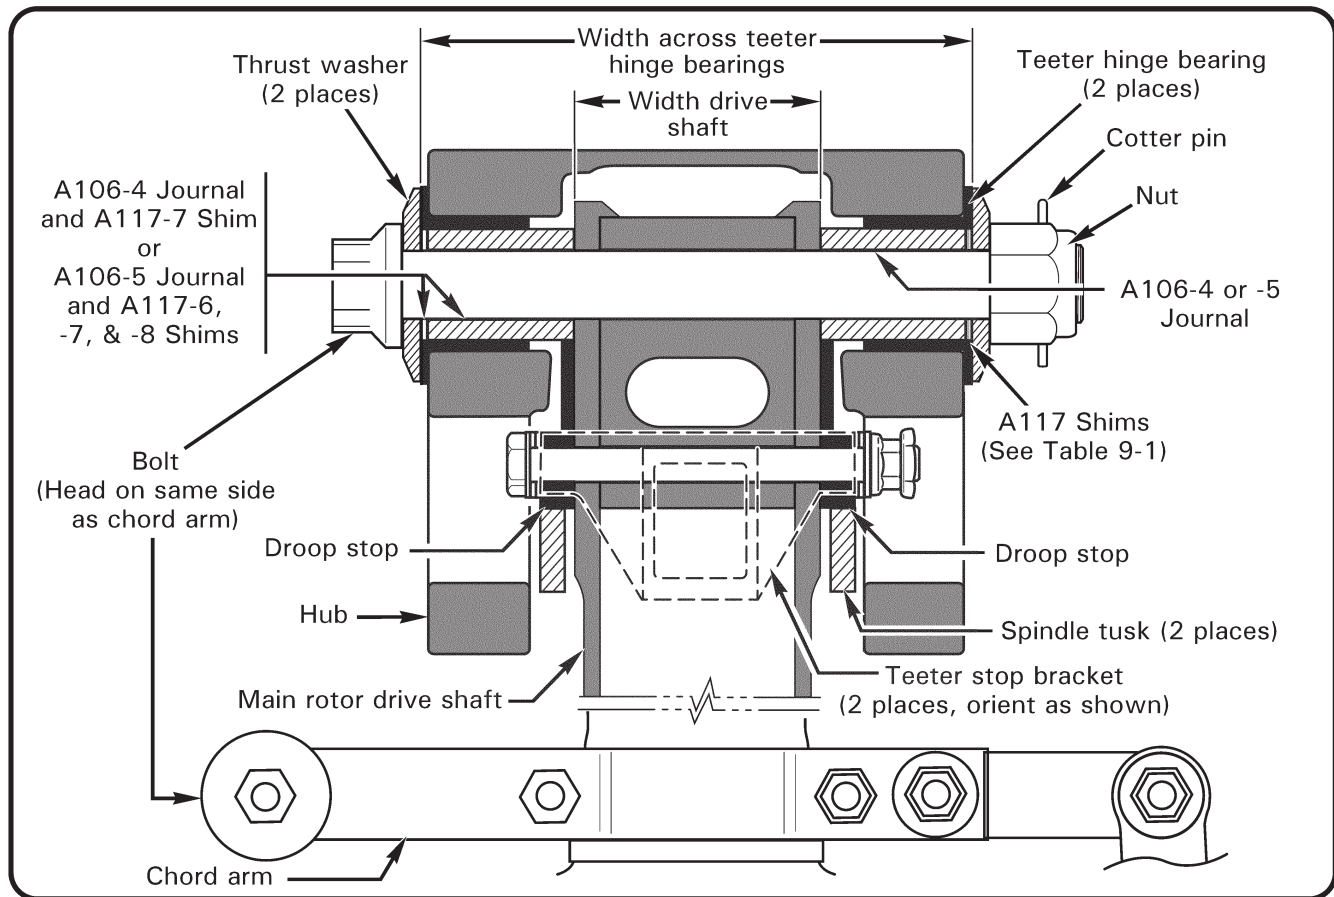

FIGURE 26-5 TEETER HINGE (HUB INSTALLATION)
2. Refer to Figure 26-5. Mark rotor hub using a grease pencil, tape, or soft marker as follows:
3. Refer to Figure 26-5. Line up mark on hub with chord arm on drive shaft. Install teeter hinge bolt, thrust washers, shims, and journals (if previous installation information is available, install parts exactly as removed).
Refer to Table 26-1 and Figures 26-5, 26-6, and 26-7.
2. Refer to Figure 26-5 and Table 26-1. Remove cotter pin, nut, thrust washer, and nut-side A117 shims. Adjust teeter hinge friction by changing nut-side shim stack thickness in small increments; reducing shim stack thickness increases friction, increasing shim stack thickness reduces friction. Install shims, thrust washer, and nut.